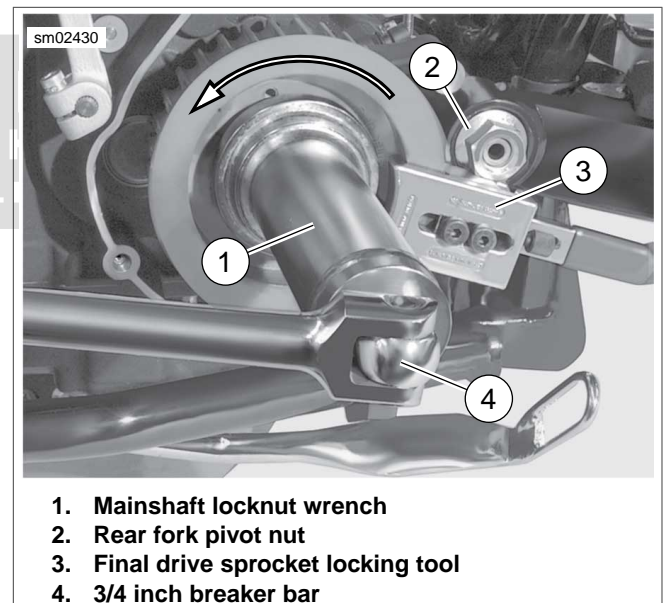

Figure 5-40. Sprocket Nut Removal (Typical)
- b. See Figure 5-40. Secure sprocket using FINAL DRIVE SPROCKET LOCKING TOOL (Part No. HD-46282-A)(3). Final drive sprocket locking tool must rest against lower portion of rear fork pivot nut (2).